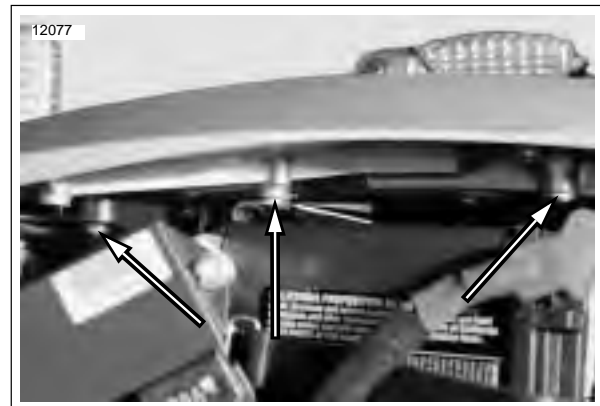

Figure 2-131. Internal Fasteners/Right Side Tail Section
11. See Figure 2-131. Remove the three fasteners on the inside of the right tail section.